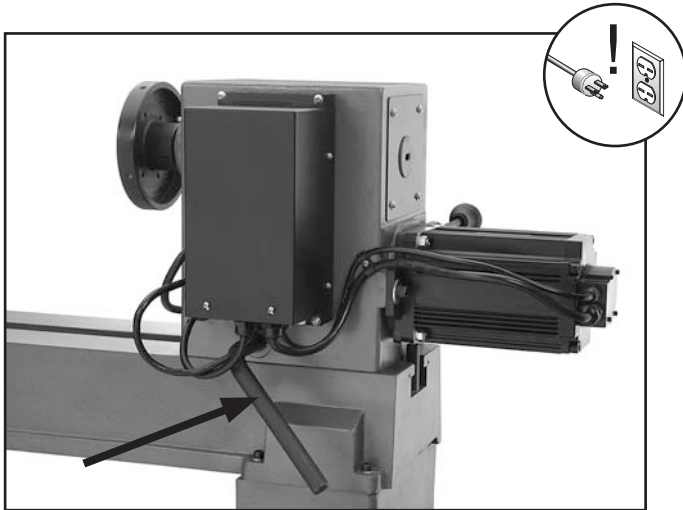

Figure 18. Headstock lock handle.
2. Loosen the headstock lock handle (see **Figure 18**).